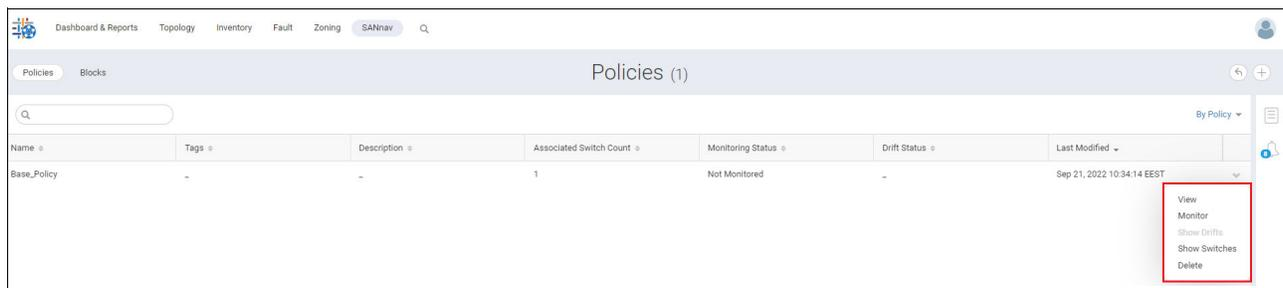

Figure 5-8 Managing policies
2. You can do the following tasks when you view the **Policies** window by using the policy view option, as shown in Figure 5-8.